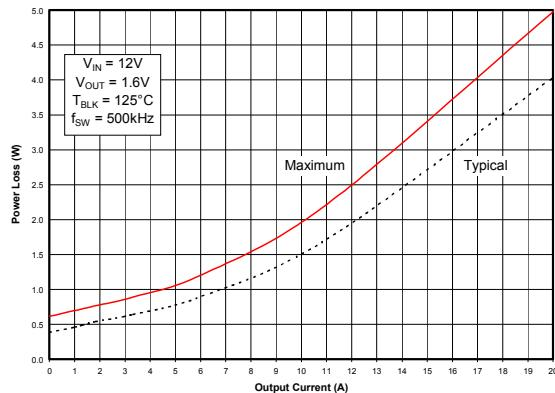
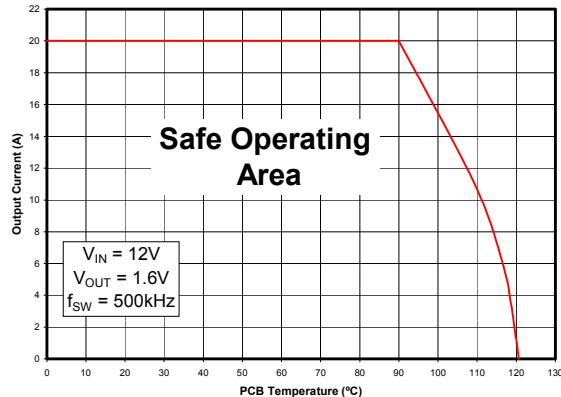
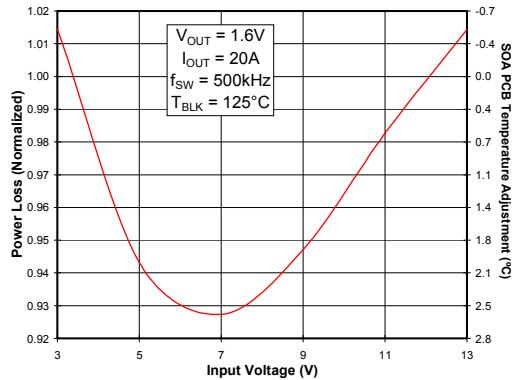

Fig. 1. Power Loss vs. Current
Fig. 2. Safe Operating Area (SOA) vs. T_{PCB}
Fig 3. Normalized Power Loss vs. V_{IN}
To make adjustments to the power loss curves in Fig. 1, multiply the normalized value obtained from the curves in Figs. 3, 4, 5 or 6 by the value indicated on the power loss curve in Fig. 1. If multiple adjustments are required, multiply all of the normalized values together, then multiply that product by the value indicated on the power loss curve in Fig. 1. The resulting product is the final power loss based on all factors.
To make adjustments to the SOA curve in Fig. 2, determine the maximum allowed PCB temperature in Fig. 2 at the required operating current. Then, add the correction temperature from the normalized curves in Figs. 3, 4, 5 or 6 to find the final maximum allowable PCB temperature. When multiple adjustments are required, add all of the temperatures together, then add the sum to the PCB temperature indicated on the SOA graph to determine the final maximum allowable PCB temperature based on all factors.
- (Fig. 1) Maximum power loss = 5W
- (Fig. 3) Normalized power loss for input voltage ≈ 0.925
- (Fig. 2) SOA PCB Temperature = $90^{\circ}C$
- (Fig. 3) Normalized SOA PCB Temperature for input voltage $\approx 2.6^{\circ}C$